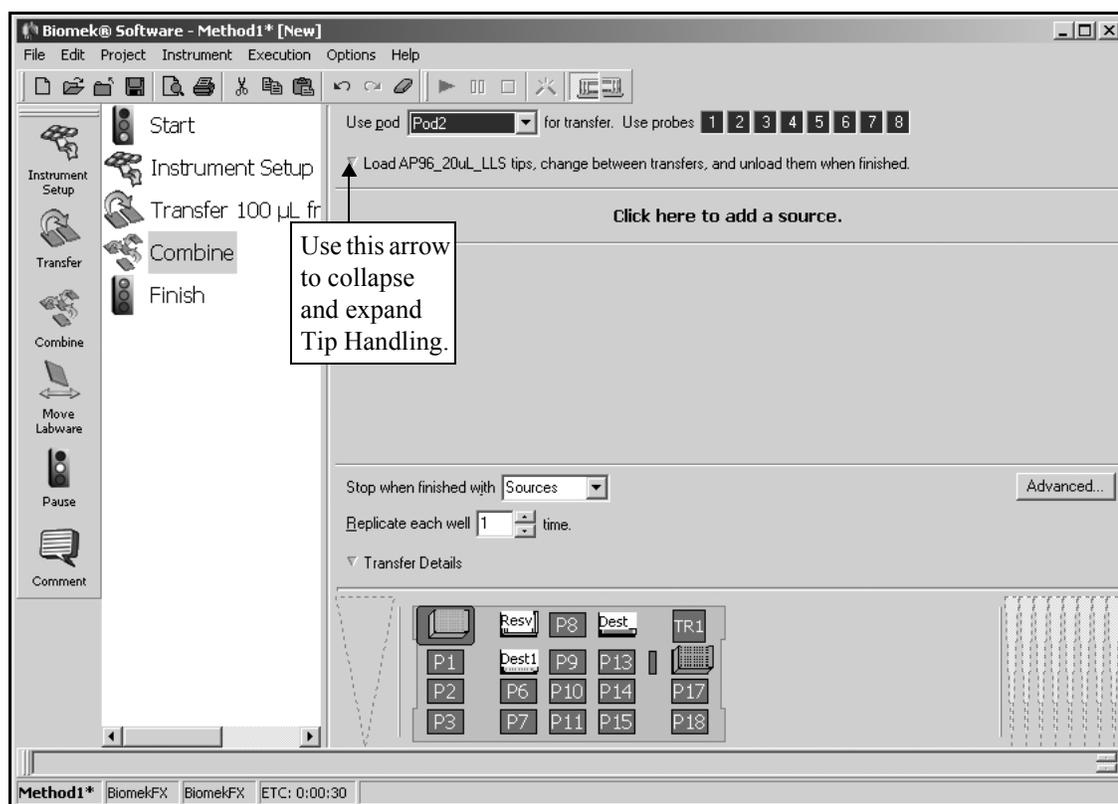

Figure 2-12. Combine step with Tip Handling collapsed
6. Your tips are configured for your liquid transfer, so click the **up arrow** next to Tip Handling to collapse the configuration. This allows more room for the step configuration (Figure 2-12).